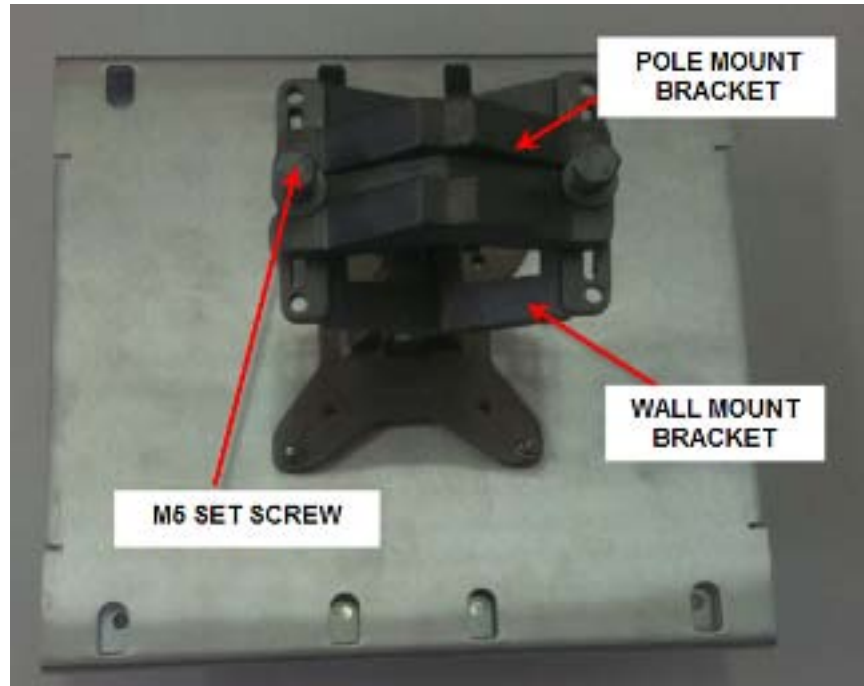

Figure 3.13. Pole Mount Bracket Assembly
- For pole mounting, attach the pole mounting bracket to the wall mounting bracket as shown in Figure 3.13, "Pole Mount Bracket Assembly".
- Secure the pole mounting bracket with Flat Washer (M5), Spring Washer (M5), and Set Screw (M5) as shown in Figure 3.13, "Pole Mount Bracket Assembly".